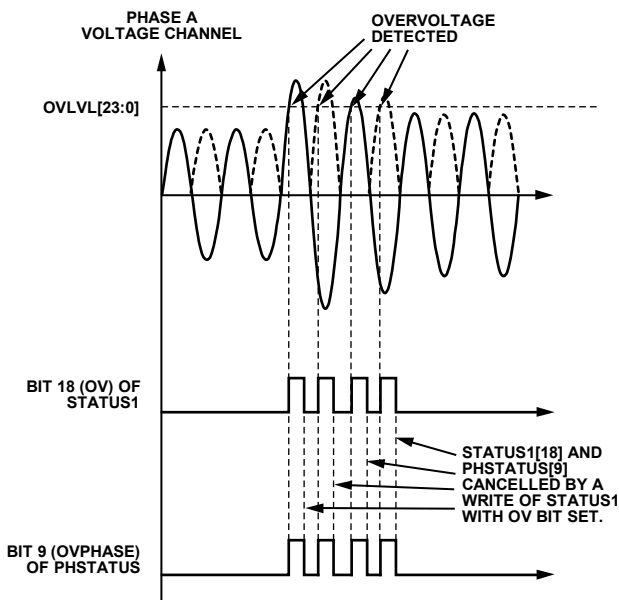

Figure 62. Overvoltage Detection
The ADE7880 detects when the instantaneous absolute value measured on the voltage and current channels becomes greater than the thresholds set in the OVLVL and OILVL 24-bit unsigned registers. If Bit 18 (OV) in the MASK1 register is set, the $\overline{\text{IRQ1}}$ interrupt pin is driven low in case of an overvoltage event. There are two status flags set when the $\overline{\text{IRQ1}}$ interrupt pin is driven low: Bit 18 (OV) in the STATUS1 register and one of Bits[11:9] (OVPHASE[2:0]) in the PHSTATUS register to identify the phase that generated the overvoltage. The Status Bit 18 (OV) in the STATUS1 register and all Bits[11:9] (OVPHASE[2:0]) in the PHSTATUS register are cleared, and the $\overline{\text{IRQ1}}$ pin is set to high by writing to the STATUS1 register with the status bit set to 1. Figure 62 presents overvoltage detection in the Phase A voltage.